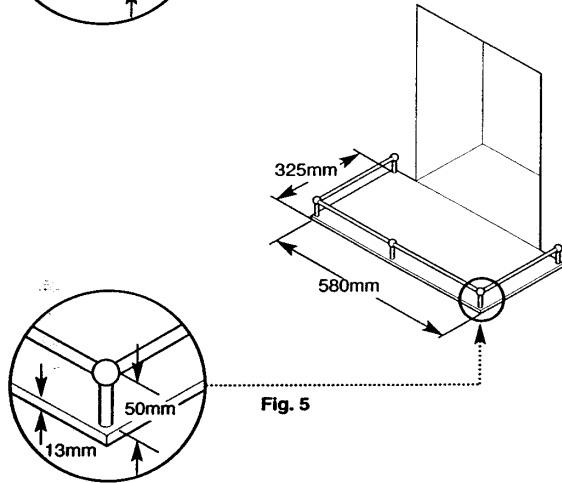

Fig. 5
4. Alternatively, a fender rail or upstanding edge of 50mm (2in) height can be fitted to the periphery of the 13mm (1/2 in) non-combustible hearth (Fig. 5).